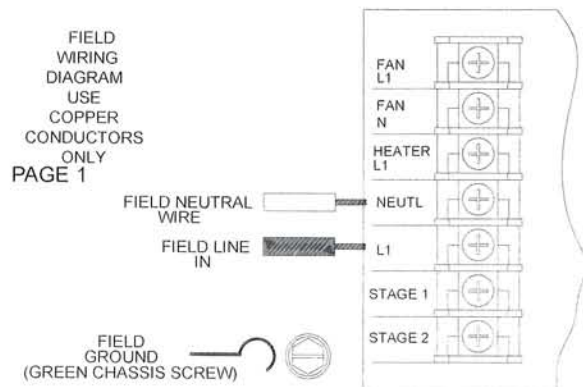

Fig. 2
- A. Black/hot wire to "L1" terminal (See Fig.2).
- B. White/neutral wire to "NEUT " terminal (See Fig.2).